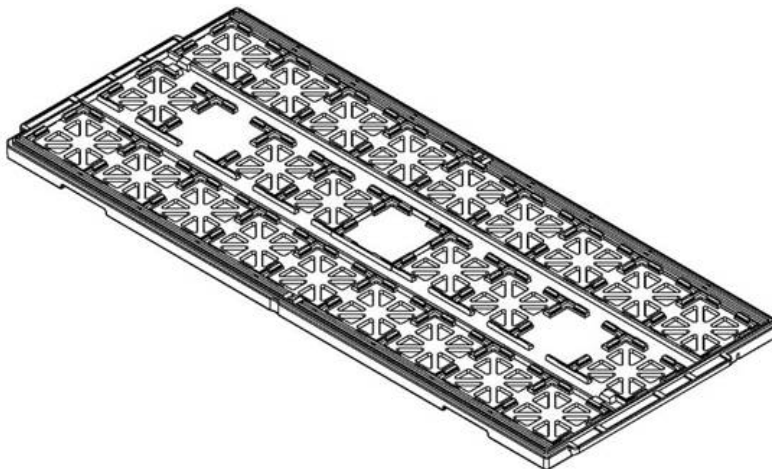

Figure 20. JEDEC Tray Example
- Freescale complies with standard JEDEC tray design configuration – See Figure 20